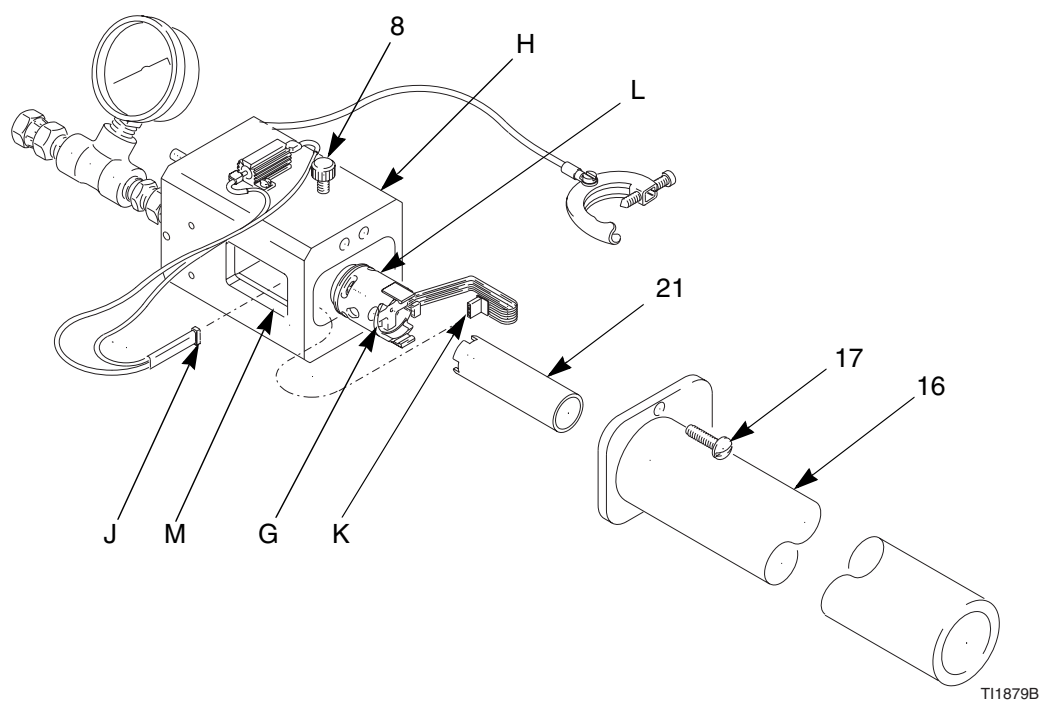

Fig. 3. Install Turbine Alternator in Fixture
3. Place the 3-pin connector (J) through the side window (M) and connect it to the turbine alternator connector (K). The orientation of the 3-pin connector does not affect the test. See Fig. 3.
5. Place the turbine alternator (L) inside the fixture (H), with the slot (G) facing the side window (M). Use the alignment tool (21) to push the alternator into the housing cavity. Tighten the top locking screw (8) until the screw extends past the alternator tab.
6. Connect the probe shroud (16) to the fixture (H) with the screw (17).